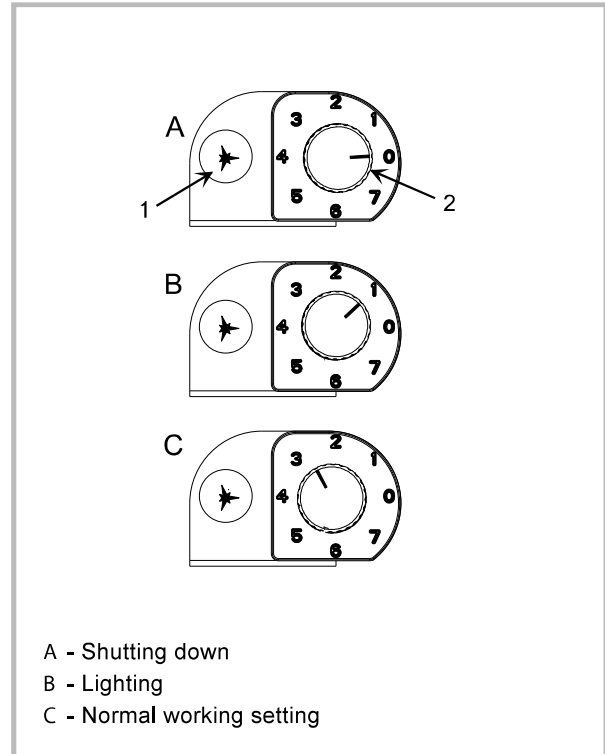

Figure 8 - Manual Tap
The control knob for the gas unit (fig. 8) is located on the back of the stove.
If, when the apparatus is working, the knob is turned to the OFF (rep. A, fig. 8, position 0) a security locking device is activated (interlock) which prevents immediate re-lighting of the apparatus, except for the pilot light. **Warning,** if the pilot light is relit before the time lapse indicated below has passed, the main burner flame will not light.
If this happens, switch the apparatus off completely (rep. A, fig. 8, position 0) and repeat the process 1 minute later using the method described below.
1 - Check that the control knob is completely turned in a clockwise direction until it cannot be turned any further (rep. A, fig. 8, position 0).
2 - Turn the lever slightly anti-clockwise until it stops (rep. B, fig. 8, position 1).
- Light the pilot light by pushing the pièzo igniter several times (rep. 1, fig. 8).
- If the knob is turned clockwise (rep. A, fig. 8, position 0) the apparatus switches off and the valve stops in the locked position (interlock).
Turn the knob completely in a clockwise direction until the click indicating the pilot light position and up to the stop point (rep. A, fig. 8, position 0).